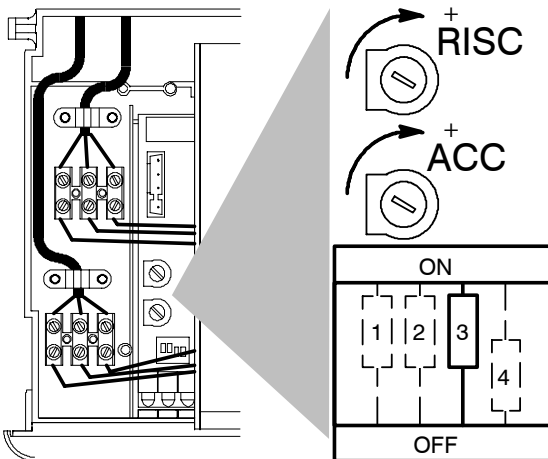

Fig. 7.7
- 14 Check the ignition gas pressure by setting dip-switch "3" (Fig. 7.7) to the OFF position. Compare the value on the gauge with the value indicated in the sections 4.5, 4.6 or 4.7 (gas pressures at the burner), accordingly with the model of boiler installed.
To adjust the ignition gas pressure, set dip-switch "3" (Fig. 7.7) to the OFF position and adjust potentiometer marked "ACC" with a screwdriver until correct ignition gas pressure is obtained.
With the boiler operating in c.h. mode, use a suitable screwdriver to turn the adjustment potentiometer marked "RISC" (Fig. 7.7). Rotating the potentiometer anti-clockwise reduces the maximum supply current to the gas modulator device, and thus reduces the gas pressure to the burner.